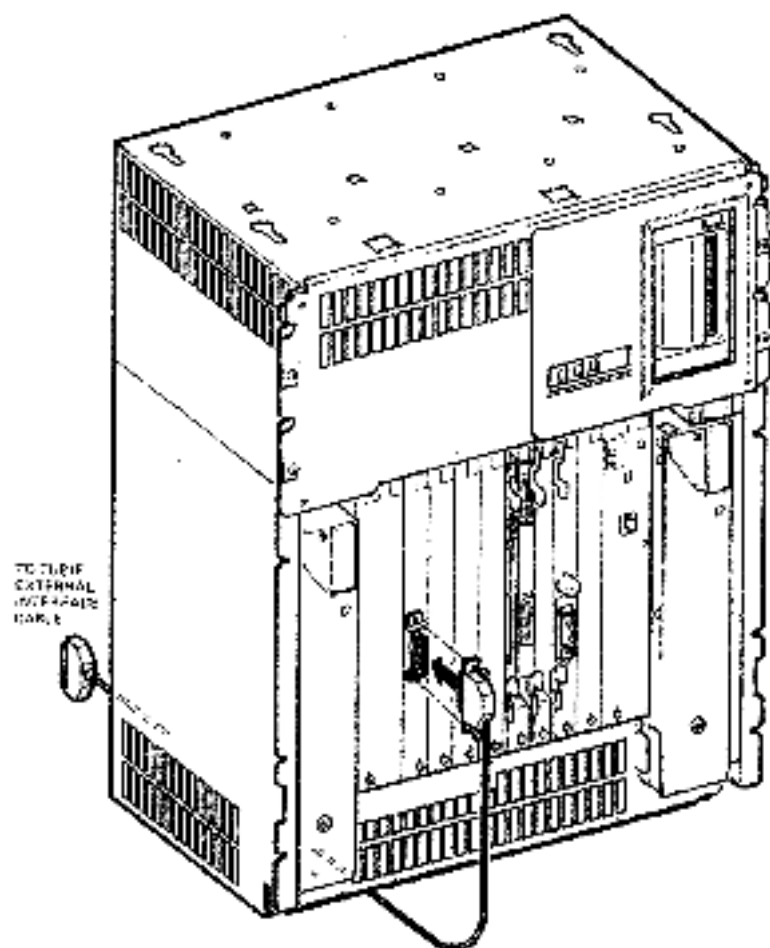

Figure 2-11 KLESIS Cable Connection
1. Connect the right-angled end of the RC18G-05 cable (part number 17-00592-02) to the $\bar{J}$ connector on the KLESIS bulkhead handle (Figure 2-11).
2. Tighten the single captive screws on the top and bottom of the 50-pin connector (Figure 2-11).
3. Route the other end of the cable under the backplane and out the rear of the enclosure (Figure 2-11).